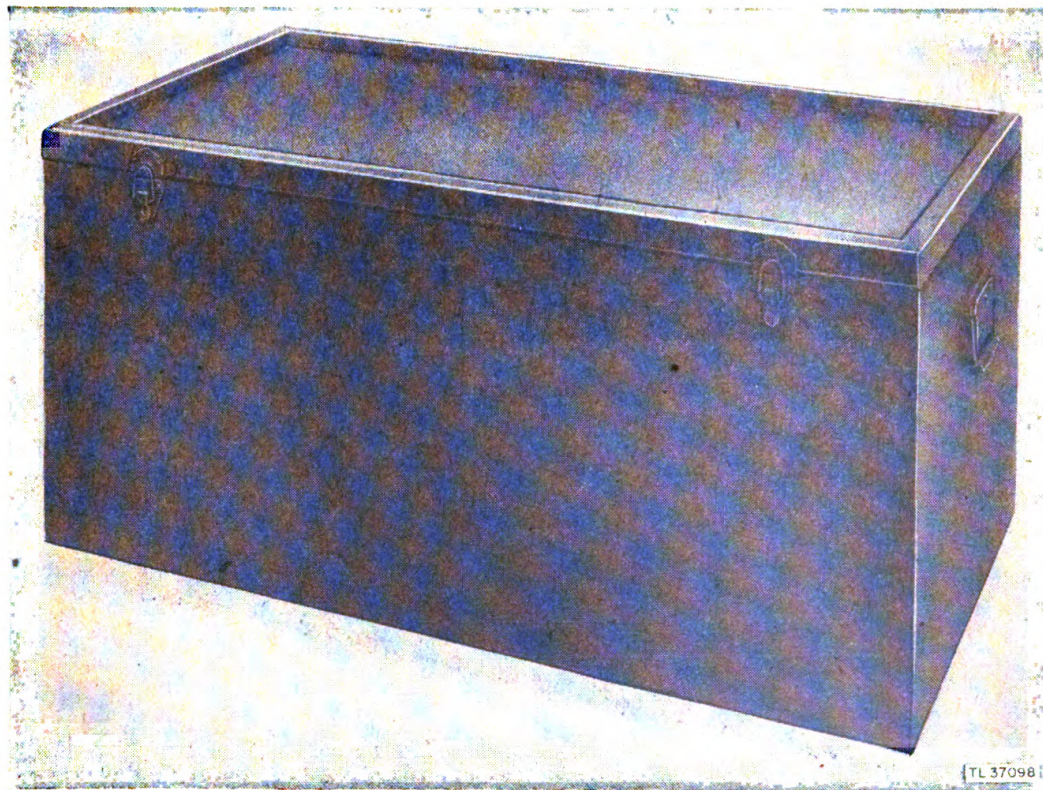

Figure 24. Chest CH-273.
a. Chest CH-273 (fig. 24) is a wooden chest 42½ inches long, 22¼ inches wide, and 20¾ inches high. Two of these chests are furnished to store the smaller components of Test Set AN/MPM-7.
**b. Chests.** Clean the chests (figs. 24 and 25) periodically to prevent dust and dirt from accumulating on the test equipment stored in them. Scrape off any broken or cracked paint and repaint the affected area. Use sandpaper to remove the paint and to prepare the surface for the new coat of paint.
(1) Inspect the cords regularly for worn or damaged covering and insulation. If any such places are found, repair or replace the damaged cord immediately.
(2) Set up the equipment in such a way that no cords are resting on any sharp objects or stretched over the edge of the bench or any test equipment. Make no sharp bends in the cords, because they may result in damage to the wire or covering.